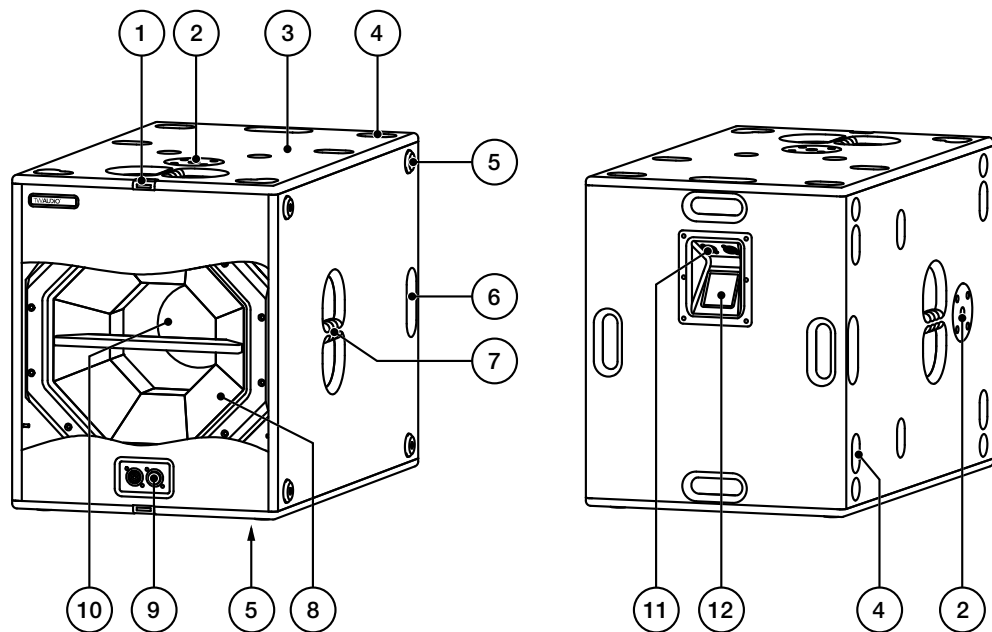

Figure 2.1 - Overview
Make sure that the maximum load of 50kg / 110lbs for the M20 pole mount flange is not exceeded! Figure 2.1 – Item 2.
The M20 pole mount flange (figure 2.1- item 2) is not designed for side forces once mounted – do not apply any pressure from the sides.
Please note that only centered loads are allowed to be placed on the M20 pole mount flange – figure 2.1 – Item 2.